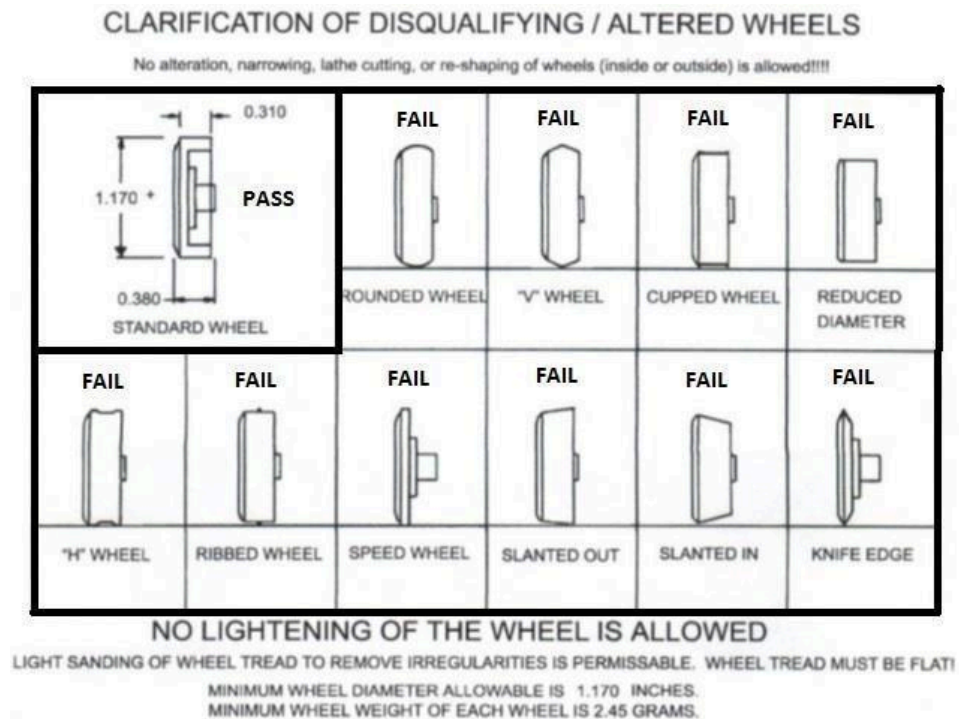
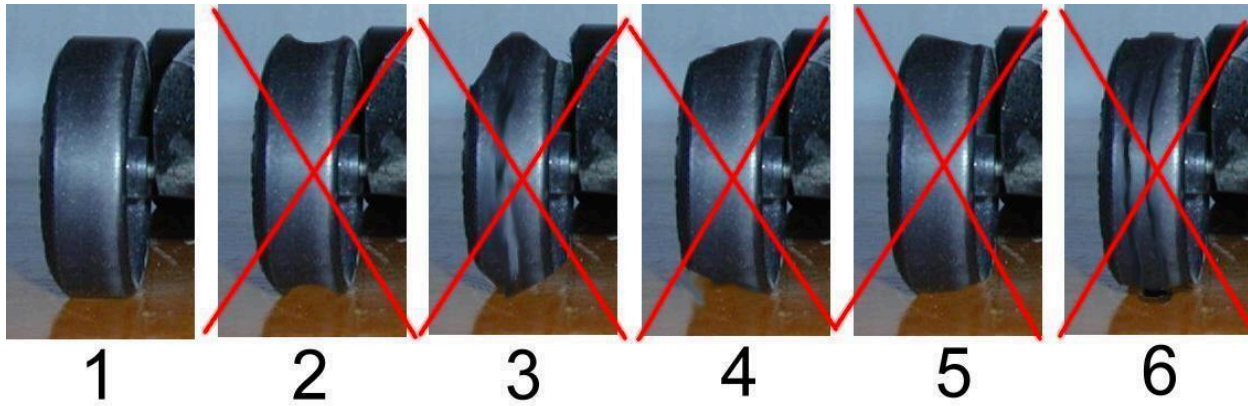

Figure 7: Disqualifying / Altered Wheels
Figure 8: Wheel Bearing and Tapering
- 3.3.6 Tread surface must be flat and parallel to the wheel bore and have a thickness of 0.036 inches consistently across the tread. Beveling or tapering of the wheels is strictly prohibited. (Figure 7 and Figure 8)